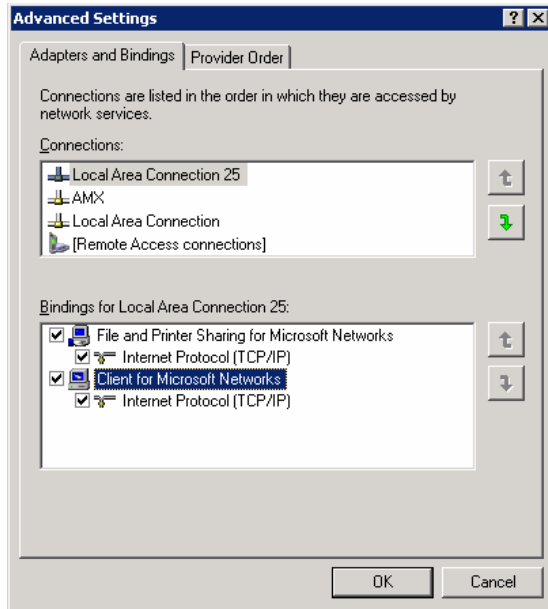

FIG. 71 Advanced Settings window
- From the *Advanced* menu, select *Advanced Settings...* to open the *Advanced Settings* window (FIG. 71).
- Under the *Adapters And Bindings* tab, the user needs to make sure the *Local Area Connection* is not at the top of the *Connections* list. If it is at the top of the list (FIG. 71), select it and use the *down* arrow to the right of the list to move it to the bottom of the list (FIG. 72).